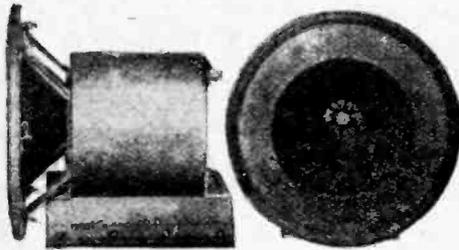

Fig. 13.—Movement and diaphragm of the small cone loud-speaker produced by the G.E.C. of America.
(1) "Proceedings, A.I.E.E.," September, 1925. The photographs in Figs. 13 and 14 are reproduced from the "A.I.E.E. Journal."